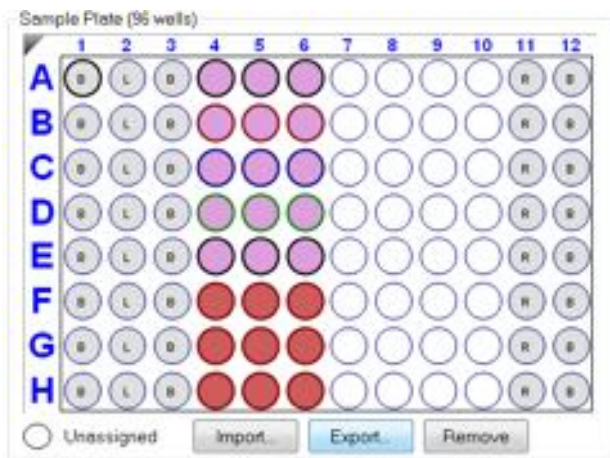

Figure 9-19: Sample Plate Map—Export Button
1. In the **Sample Plate Map**, click **Export** (see Figure 9-19).
1. In the Sample Plate Definition window (see Figure 9-19: on page 464), click **Import**.